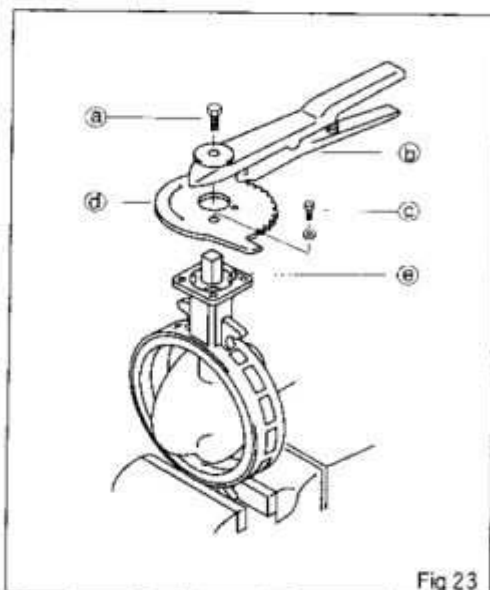

Fig 23
1. Lever operation type (Fig 23)